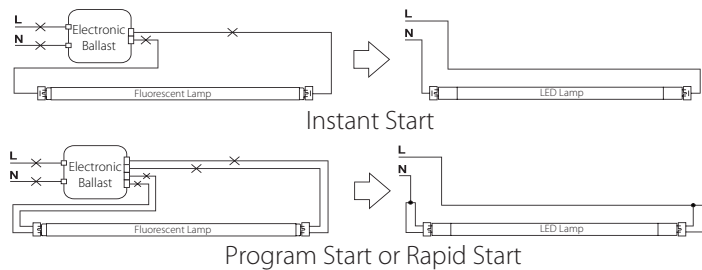

Fig. 2 - Retrofit luminaire with One Lamp
8. Make sure all sockets are replaced and wired according to the appropriate wiring diagram (Fig. 2, 3, 4, 5).